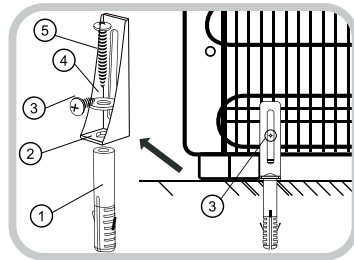

Fig.5
13. Installing the floor Bracket Kit (Fig. 5)